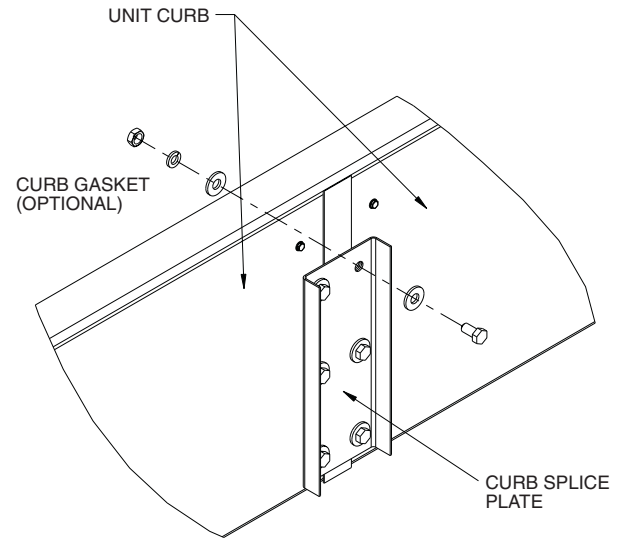

Fig. 8 — Splice Plate Usage
2. Remove the sheet metal screws that fasten the holddown bracket to the fan sled. (Fig. 8).
1. Curbs greater than 12 ft in airway length will be split and joined together by a splice plate. Butt the two sections and bolt together with the splice plate as shown in Fig. 8.